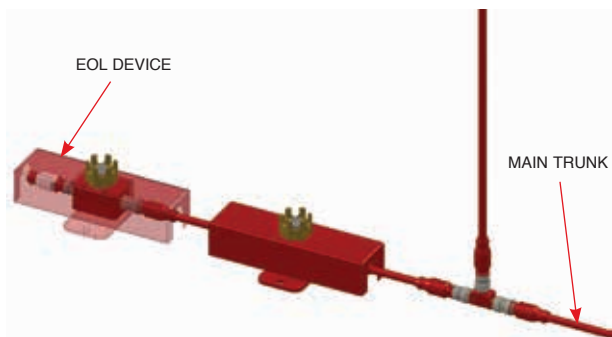

FIGURE 4-5
5. Install an EOL Device (Part No. 439396) at the end of the main detection trunk. See Figure 4-5.